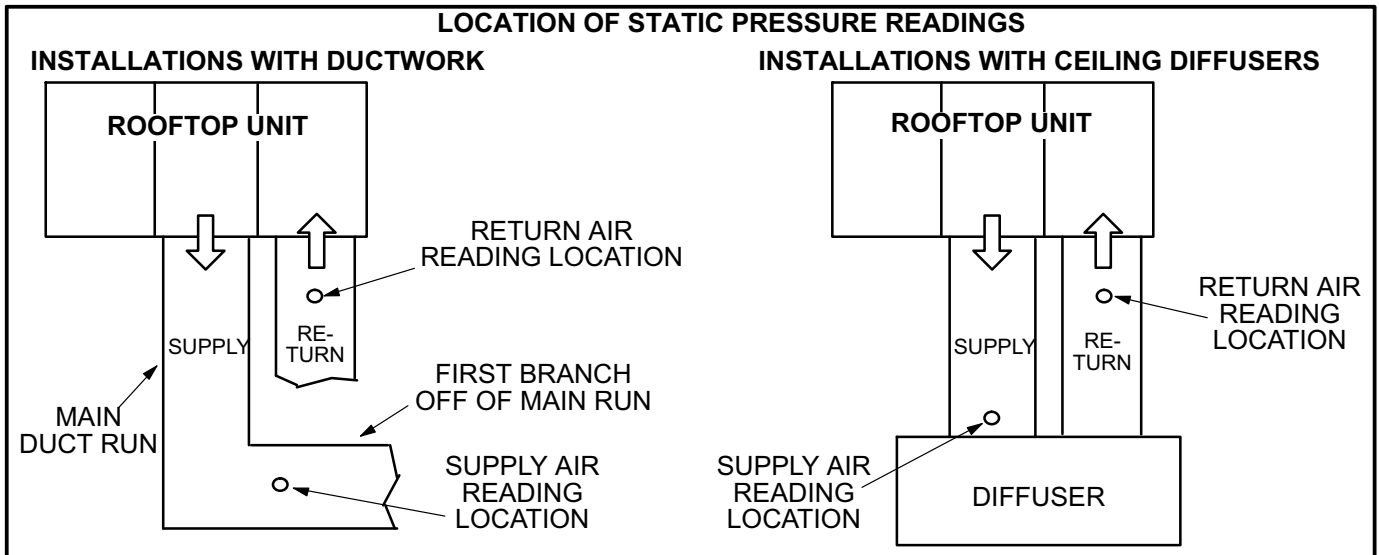

FIGURE 15
- 2- With all access panels in place, measure static pressure external to unit (from supply to return). Add any additional air resistance for options and accessories shown in accessory air resistance tables. Blower performance data is based on static pressure readings taken in locations shown in figure 15.
- 2- With all access panels in place, measure static pressure external to unit (from supply to return). Blower performance data is based on static pressure readings taken in locations shown in figure 15.